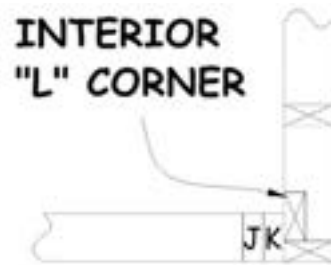

Figure 3-12. Interior L-Corner Configuration.
5. At corners and intersections, pay attention to whether a door will be built at that location. If so, make the room wall long and the door wall short, not the other way around. Include an “L-Corner” at the door end of the room wall and lay out the door plates so that the KJ pair abuts the L-Corner (see Figure 3-12). This allows for easy nailing through the “L” into the King stud. This configuration also provides a stronger corner that does not depend on nailing one stud into the edge of another stud. In
2. Recheck wall intersections to determine which wall end should abut the side of the other wall (which wall will be the “long” wall and which will be the “short” wall). This may be dictated by an adjoining door. (See Section 3.6.5 and Figure 3-12 above.)
- c. Where a door will be attached at the end of a bathroom or bedroom wall, mark the end of the wall for a 2x4 L-corner oriented to allow nailing through the L-corner into the King stud of the door (see Figure 3-12). This is similar to the 2x6 L-corners used in the exterior walls.